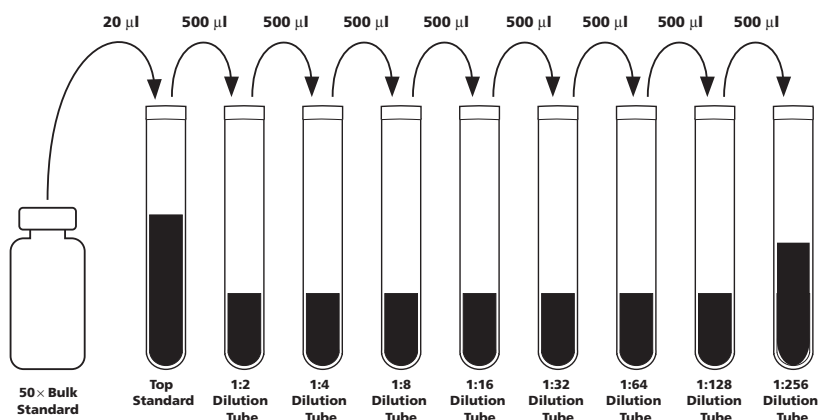

Figure 6. Preparation of BD™ CBA Cell Signaling Flex Set Standard Dilutions
6. Perform a serial dilution by transferring 500 µl from the Top Standard to the 1:2 dilution tube and mix thoroughly. Continue making serial dilutions by transferring 500 µl from the 1:2 tube to the 1:4 tube and so on to the 1:256 tube and mix thoroughly (see Figure 6). The Assay Diluent serves as the negative control.